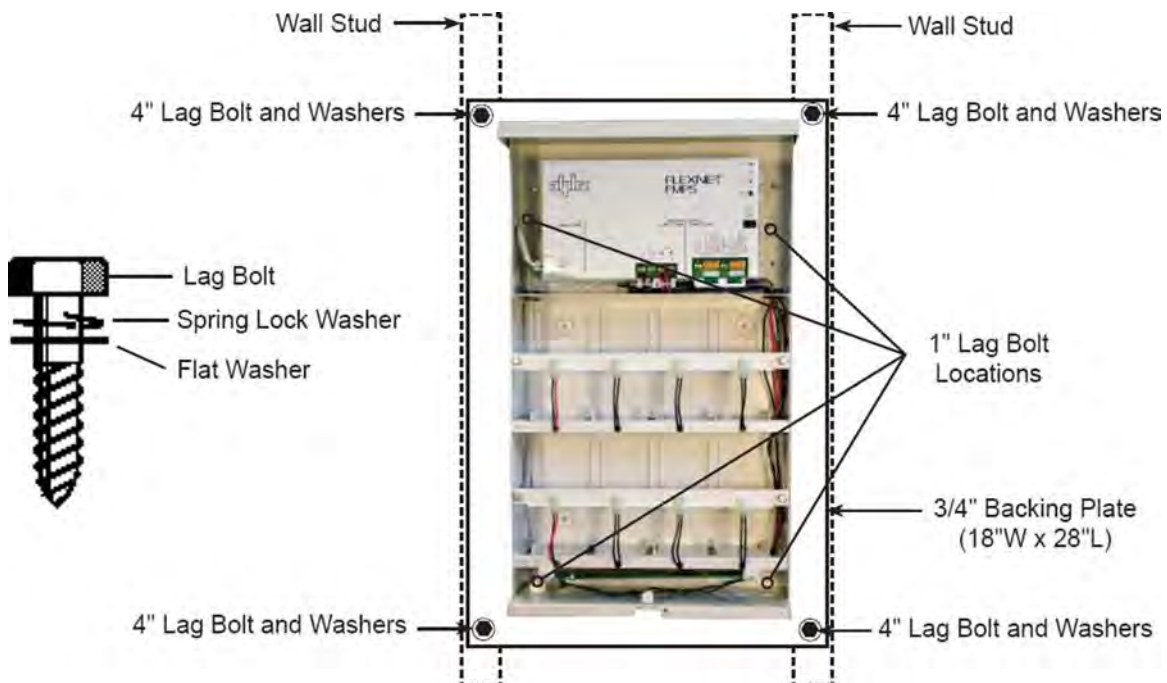

Figure 5—FMPS wall-mounting
3. Attach the FMPS to the backing plate using four customer-supplied 5/16" x 1" lag bolts, with one 5/16" flat washer and one 5/16" spring lock washer per lag bolt. See Figure 5.